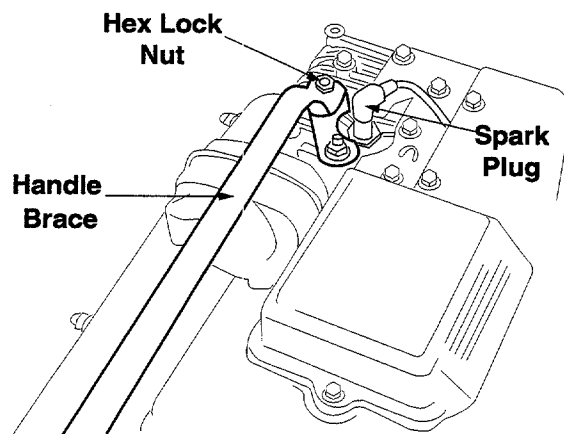

Figure 4
4. Remove the hex lock nut from on top of the engine, just to the left of the spark plug. See figure 4. Attach the curved end of the handle brace to the top of the engine, using hex lock nut just removed. Tighten securely.